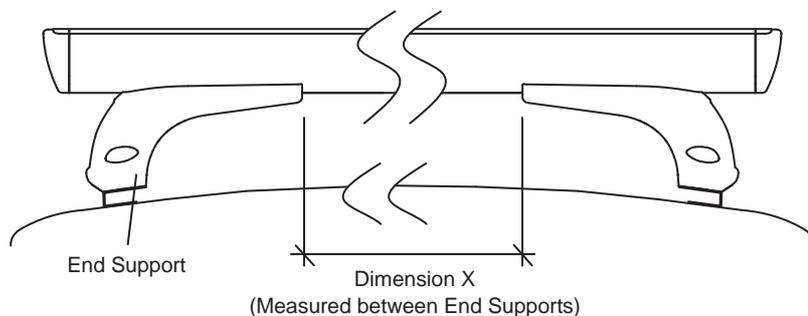

Fig. 4
A. Using a tape measure, obtain a size for Dimension X (Fig.4).